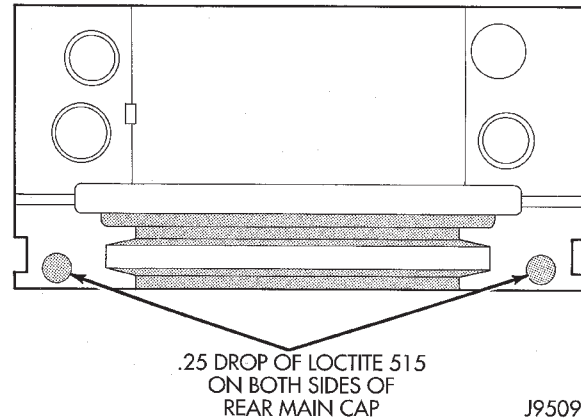

Fig. 40 Sealant Application to Bearing Cap
- (1) Clean Loctite 518 residue and sealant from the cylinder block and rear cap mating surface. Do this before applying the Loctite drop and the installation of rear cap.
- (2) Lightly oil the new upper seal lips with engine oil.
- (3) Install the new upper rear bearing oil seal with the white paint facing towards the rear of the engine.
- (4) Position the crankshaft into the cylinder block.
- (5) Lightly oil the new lower seal lips with engine oil.
(6) Install the new lower rear bearing oil seal into the bearing cap with the white paint facing towards the rear of the engine.
(7) Apply 5 mm (0.20 in) drop of Loctite 518, or equivalent, on each side of the rear main bearing cap (Fig. 40). DO NOT over apply sealant or allow the sealant to contact the rubber seal. Assemble bearing cap to cylinder block immediately after sealant application.